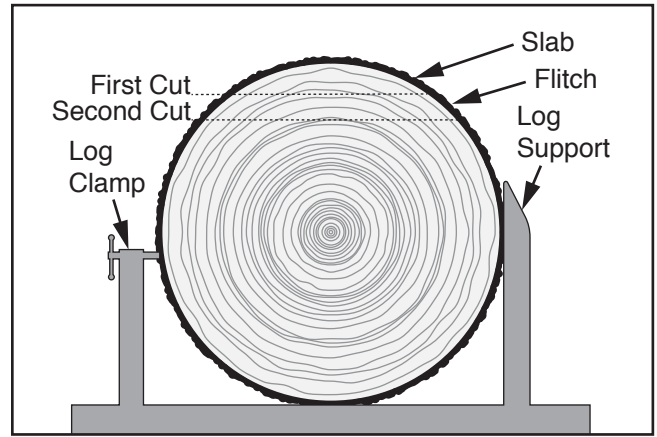

Figure 44. First cuts to live saw a log.
3. Make first cut, then remove slab from log (see **Figure 44**).
4. Lower blade the desired thickness of lumber and cut first flitch (see **Figure 44**).